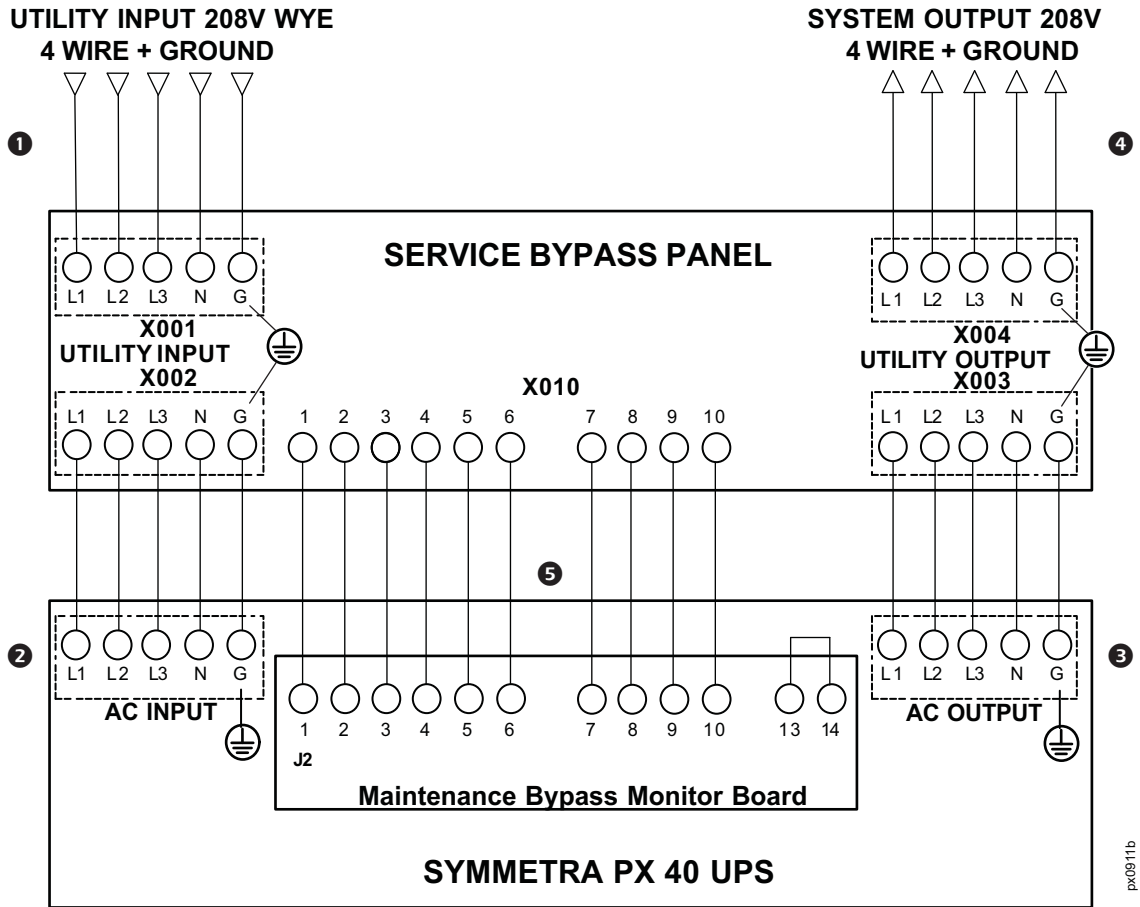

Figure 2. Symmetra PX 40 4-Wire UPS Connections to SBP
- 5 Make all control wire connections (X010) between the UPS and the SBP according to the instructions in the illustrations. (Figure 2)